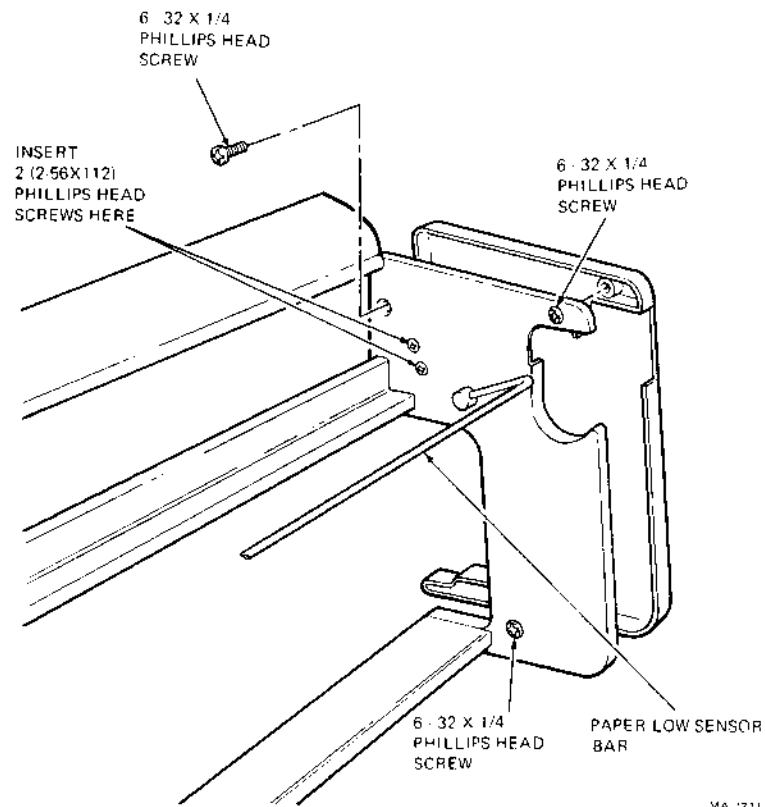
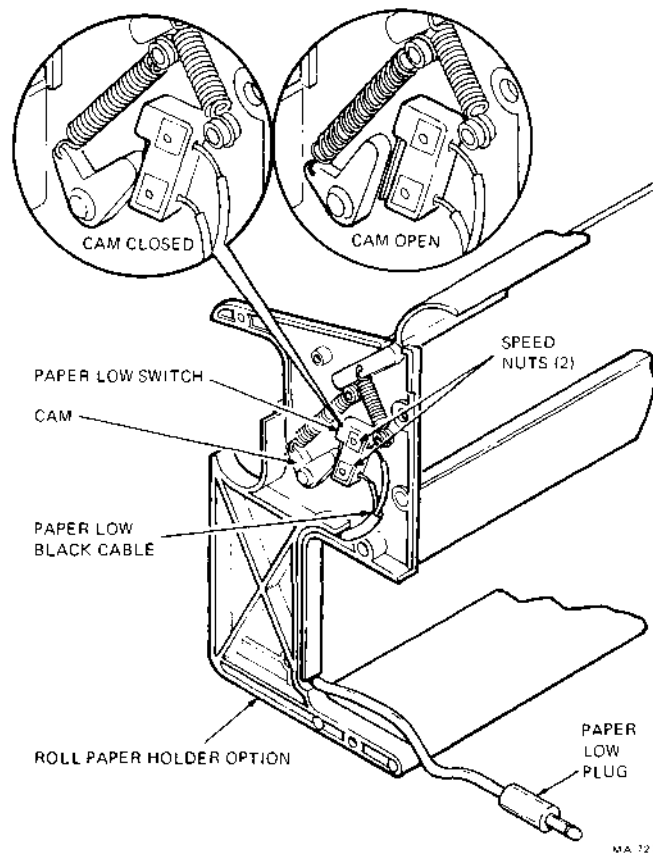

Figure 3-15 Roll Paper Holder Cover Cap
Figure 3-16 Paper Low Switch Installation
19. Using a Number 1 phillips screwdriver, remove the three (6-32 \times 1/4) phillips screws that secure the right roll paper cover cap (as viewed from the back) to the roll paper holder, and set the cap aside (Figure 3-15).
20. Insert the two (2-56 × 1/2) flathead phillips screws through the inner side of roll paper holder (Figure 3-15).
21. Press down on the paper low sensor bar (Figure 3-15) to open cam (Figure 3-16).
23. Secure the paper low switch using two speed nuts (Figure 3-16).
24. Route the paper low jack cable through the paper holder assembly (Figure 3-16).